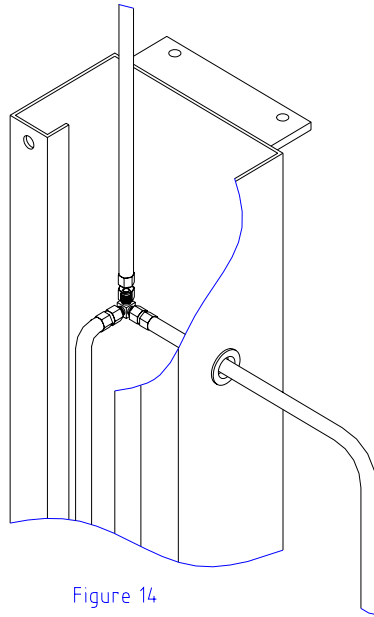

Figure 14
- E. To prevent the carriages from rubbing the hose, pull the hoses upward taking out any slack between the cylinder fitting port and the cylinder mount. Secure the hoses to the mainside cylinder with wire tie around the tee and the cylinder, **the tee should be positioned to aim directly out through the grommet, figure 14**. Secure the hose to the offside cylinder at approximately the same height with a wire tie.